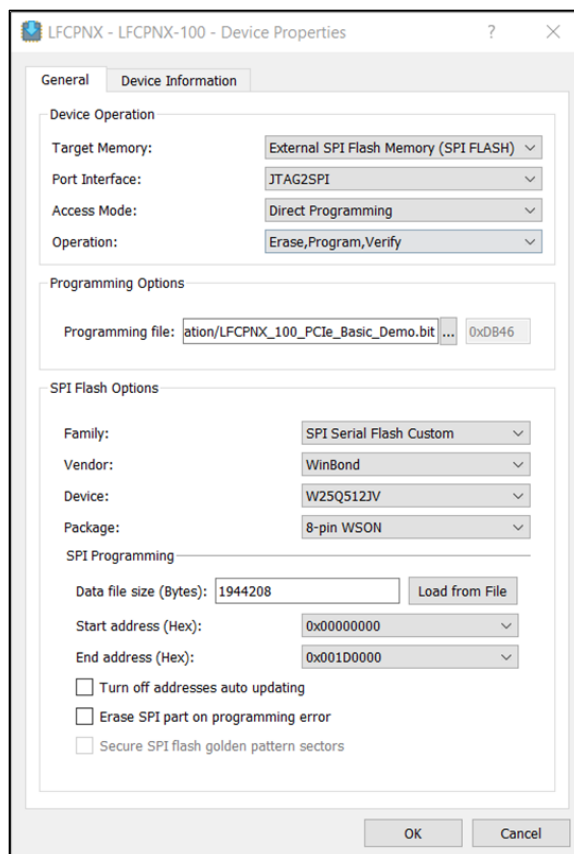

Figure 3.7. Device Properties Dialog for SPI Flash Programming Setting
6. Click on **Fast Configuration** from the **Operation** column (Figure 3.6). The **Device Properties** dialog box appears (Figure 3.7). Change the **Target Memory** settings using the drop-down menu, and then you can see the device properties settings exactly as shown in Figure 3.7.
7. Browse to choose the programming file **LFCPNX_100_PCIe_Basic_Demo.bit** (Figure 3.7).